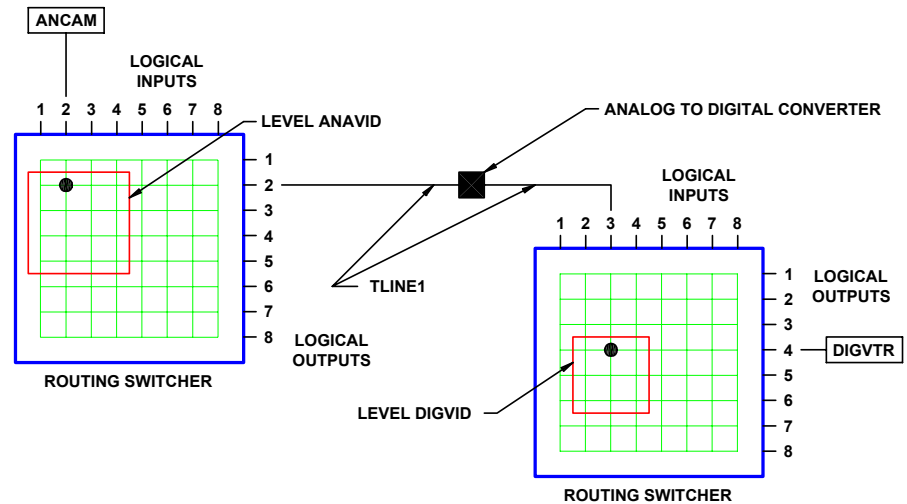

Figure 22 Configuring a Tieline
A tieline is a special type of logical switch that allows a logical input on one level to be switched to a logical output on a different level. The example shown in Figure 22 demonstrates a tieline being used to route a video signal from an analog camera, through an external analog-to-digital converter, to a digital VTR.
2. Enter the **Tieline Name**. Tieline names are one to eight characters in length and are constructed using uppercase letters, numbers, and spaces. The first character must be a letter. For the example shown in Figure 22, "TLINE1" would be used.
3. Select the **Output Level** from the drop box and enter the **Output** number. For the example shown in Figure 22, "ANAVID" and "2" would be used.
4. Select the **Input Level** from the drop box and enter the **Input** number (this is the logical input number). For the example shown in Figure 22, "DIGVID" and "3" would be used.